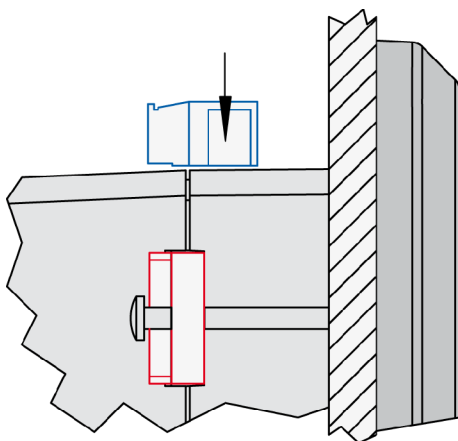

Fig. 23: Reattach terminals
7. ➔ Reattach the wire connection terminal strip (Fig. 23) and secure them with the side screws.